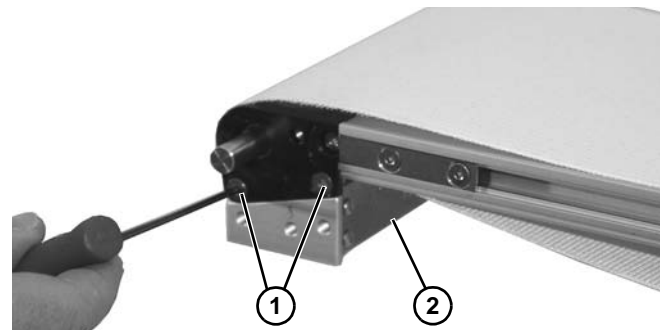

Figure 38
3. Remove two screws (Figure 38, item 1) on each side of conveyor holding pinch drive assembly (Figure 38, item 2).